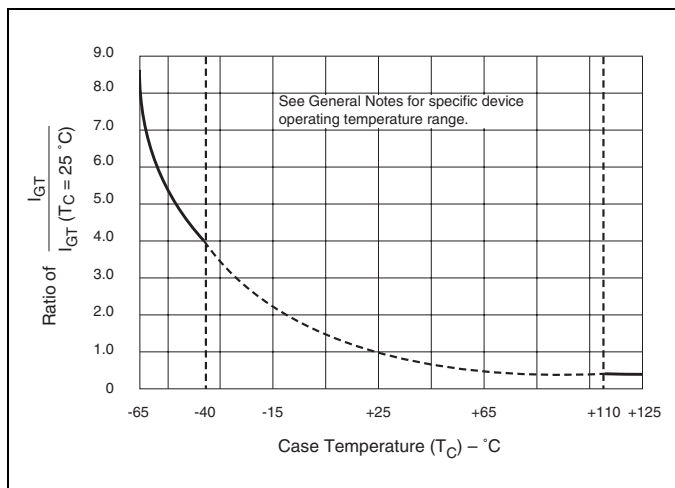

Figure E5.10 Normalized DC Gate-Trigger Current versus Case Temperature
- See Figure E5.10 for I_{GT} versus T_C or T_L .